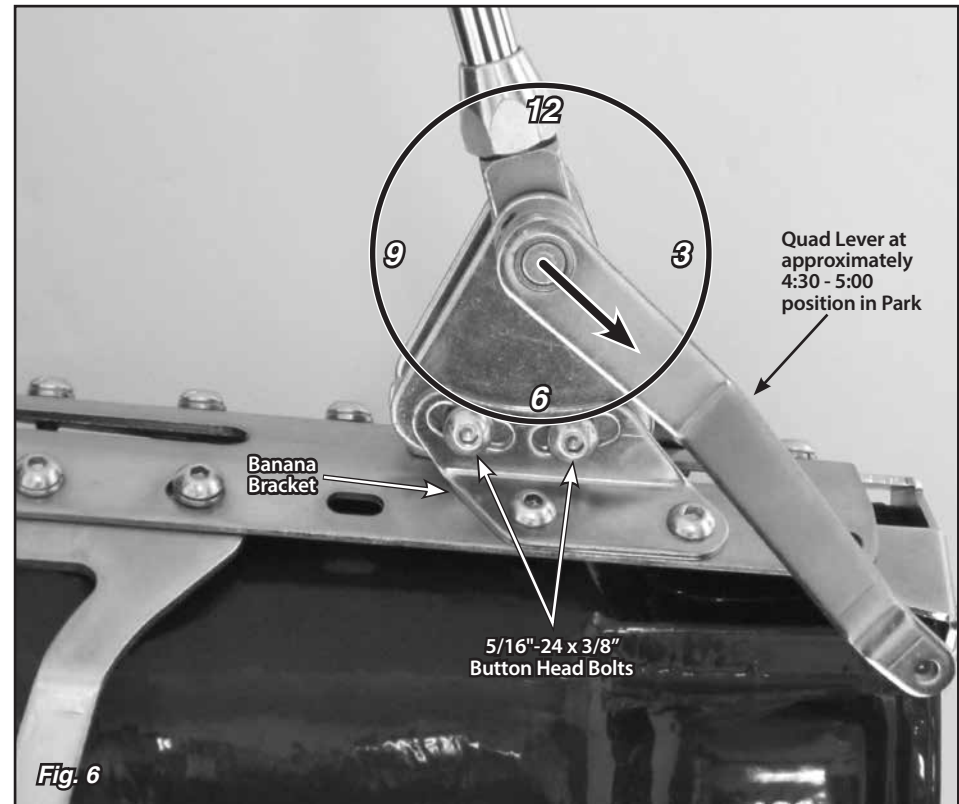

Fig. 6
**Step 10:** Make sure the two 5/16"-24 x 3/8" button head bolts that attach the left side banana bracket to the shifter assembly (in the curved, slotted holes) are tight. Before tightening the shifter assembly down to the main plate, move the shifter lever through all the gear positions. Make sure that the shifter lever and knob do not come in contact with the dash or the seat. The shifter assembly can be tilted forward or backward if needed by loosening the 5/16"-24 x 3/8" button head bolts in the curved, slotted holes in the left side banana bracket. **Fig. 6**
**Step 11:** Put the shifter lever into the Park position and check the position of the quad lever. It will need to be pointing to about the 4:30 - 5:00 position. If it is not, loosen the set screw in the top of the quad lever with a 1/8" Allen wrench and slide the quad lever off of the shaft. Reposition it on the shaft at approximately the 4:30 - 5:00 position, and retighten the set screw. **Fig. 6**
Double check to make sure that the bolts connecting the left side banana bracket to the shifter assembly are tight. **Fig. 6**